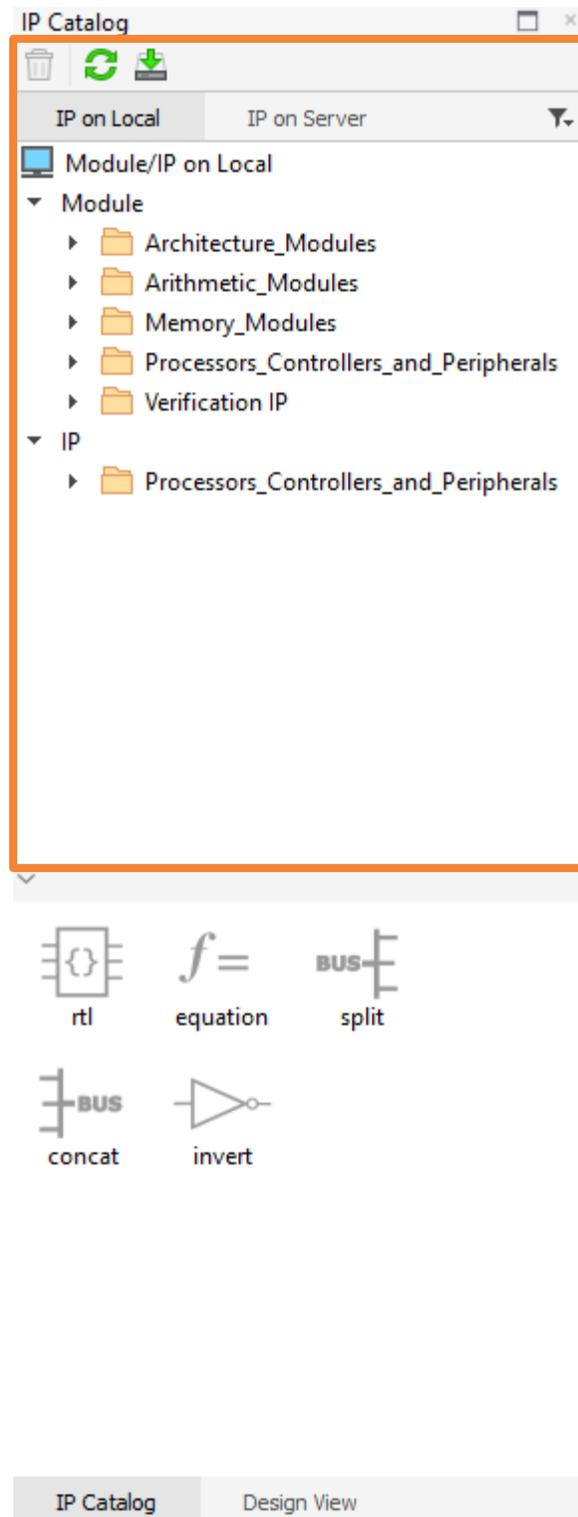

Figure 2.18. IP Catalog
After starting a Propel Builder project, you can add modules by dragging them from the IP Catalog view to the Schematic view. The IP Catalog view comes with a large variety of modules for common use and some glue logic modules as well, which can be found from the **IP on Local** tab (Figure 2.18). Click the **IP on Server** tab to find and download more modules for specialized use.
1. (Optional) From the Propel Builder GUI **IP Catalog** area (Figure 2.18), choose the **IP on Server** tab. Select a desired IP. Click the  **Install** button. After the IP is installed successfully, the new IP can be shown in the **IP on Local** tab.